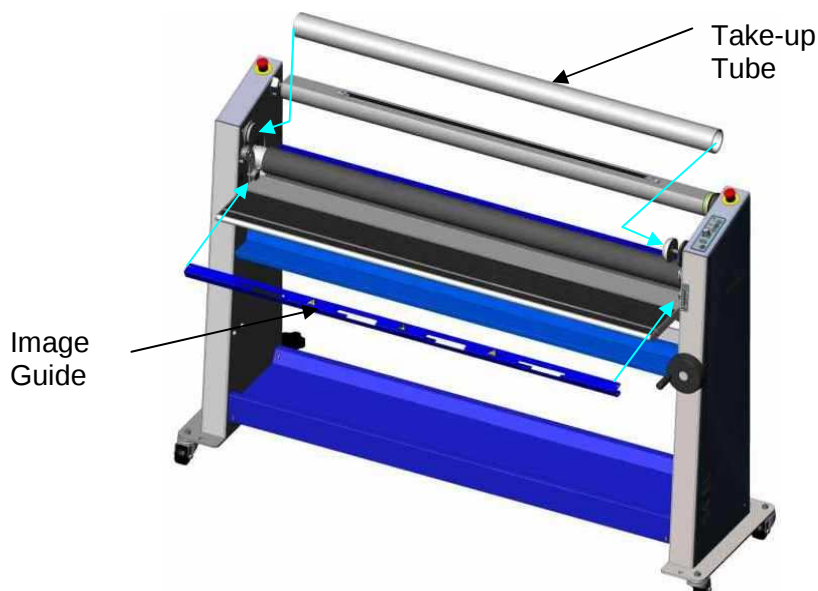

Figure 5
12. Install Image Guide on table as shown in figure 5.
13. Install Take-up Tube onto right side first compressing spring on the right side then inserting left side onto drive (figure 5).